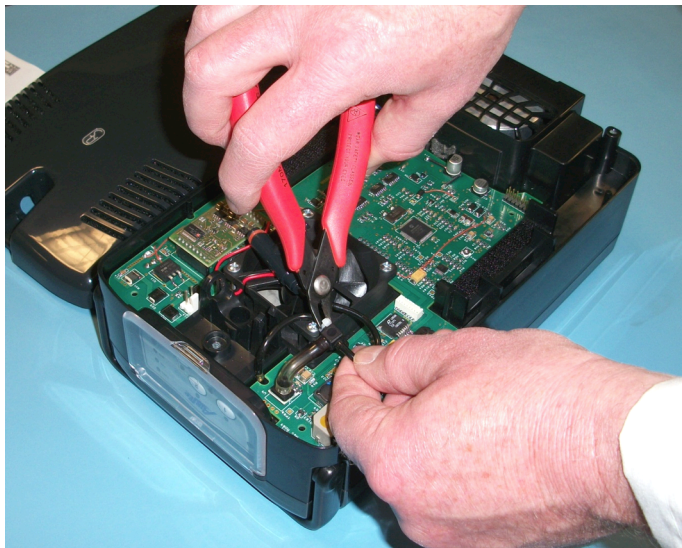

Figure 5.9
7. Carefully disconnect the 1/8" OD tubing coming from the back of the unit to the limiting orifice. (See Figure 5.9.)